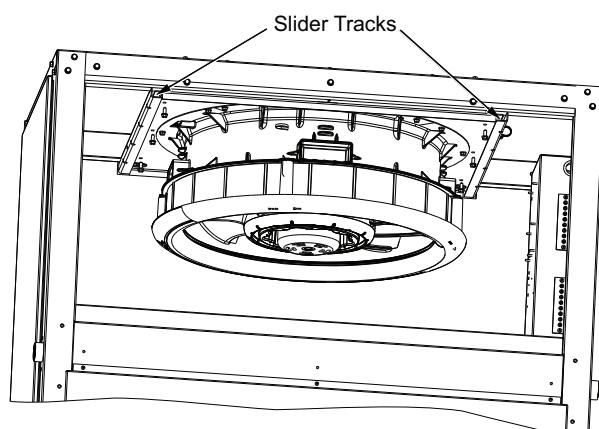

Fig. 31 – Lower Fan Deck Assembly to Slider Tracks
4. Allow the fan deck to drop into the slider tracks (careful not to pinch body parts when the fan drops) See Fig. 31.